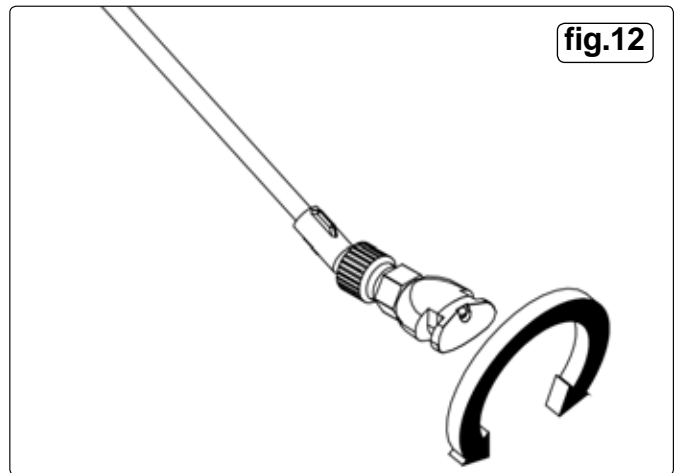

fig.13
8.3.2. Turn the broadcast lance valve on (fig.13)